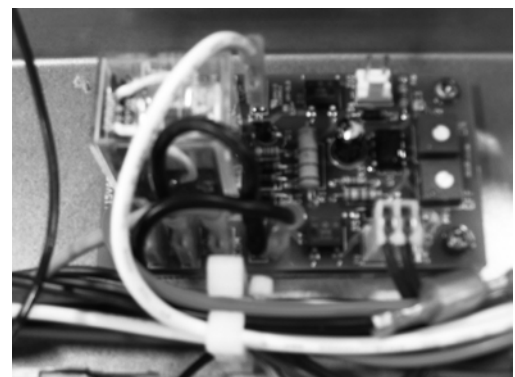

Figure 2: New Timer Board
2. Install the new timer board supplied with this kit in the same position as the old board (**Figure 2**). Connect the wires as follows: